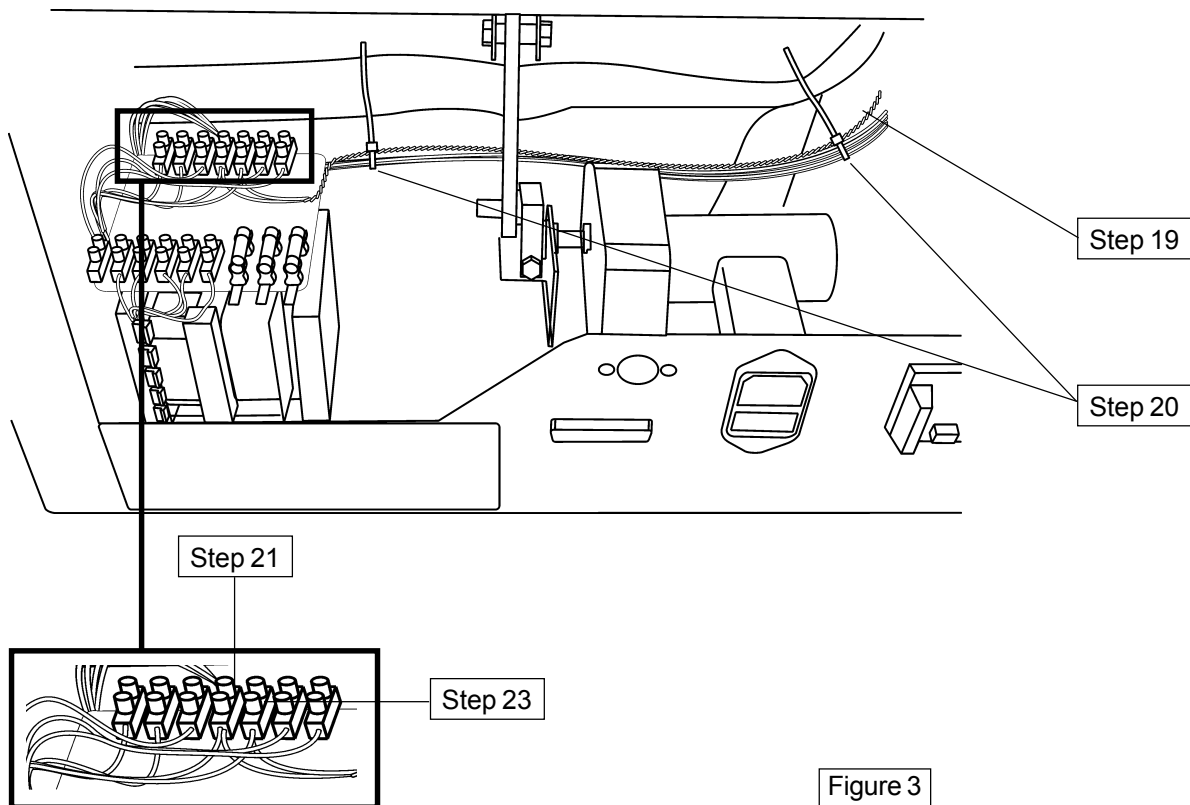

Figure 3
19. Route the Orange and Purple cable along with the existing Harness according to figure 3.
20. Secure the Orange and Purple cable with two cable ties, according to figure 3.
21. Loosen screw no. 9 on the terminal block, White cable, according to figure 3.
22. Insert the Orange cable from the PSH and the existing White cable to no. 9 on the terminal block. Fasten the screw, according to figure 3.
23. Loosen screw no. 10 on the terminal block, Blue cable, according to figure 3.
24. Insert the Purple cable from the PSH and the existing Blue cable to no. 10 on the terminal block. Fasten the screw, according to figure 3.